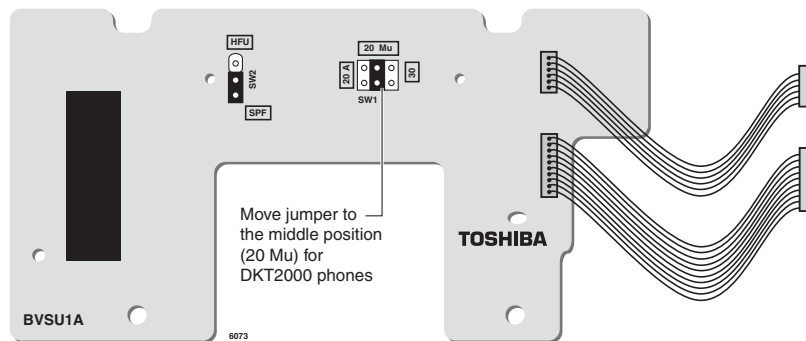

Figure 11-30 Speaker Off-hook Call Announce Upgrade (BVSU1A)
- For the BVSU only, make sure that the SW1 and SW2 pins are set per Figure 11-30 and Table 11-5 on page 11-5.